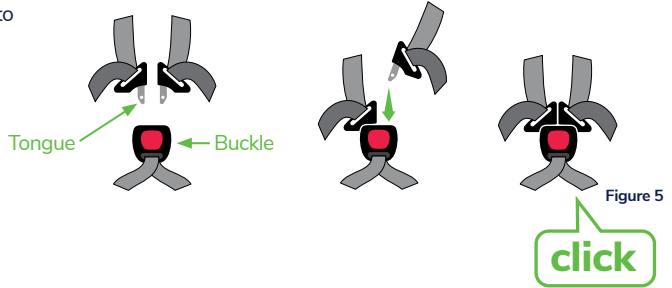

Figure 5
Step 3. Insert harness tongues into the harness buckle, listen for 'click' (Figure 5).